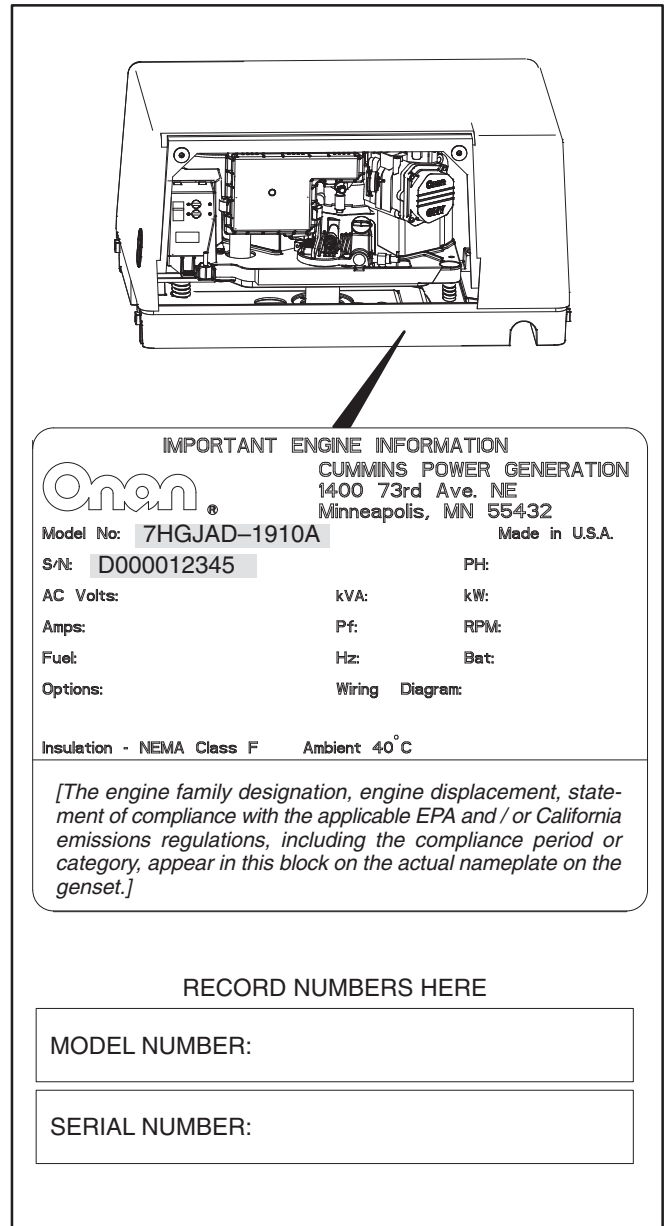

FIGURE 1. TYPICAL NAMEPLATE
**Model and Serial Numbers:** Have the model and serial numbers handy (gray boxes, Figure 1) when contacting an Onan dealer for parts, service or product information. Each character is significant. (The last character of the model number is the specification letter, which is important for obtaining the right parts.) Record these numbers in the boxes in Figure 1 so that they are handy when you need them.